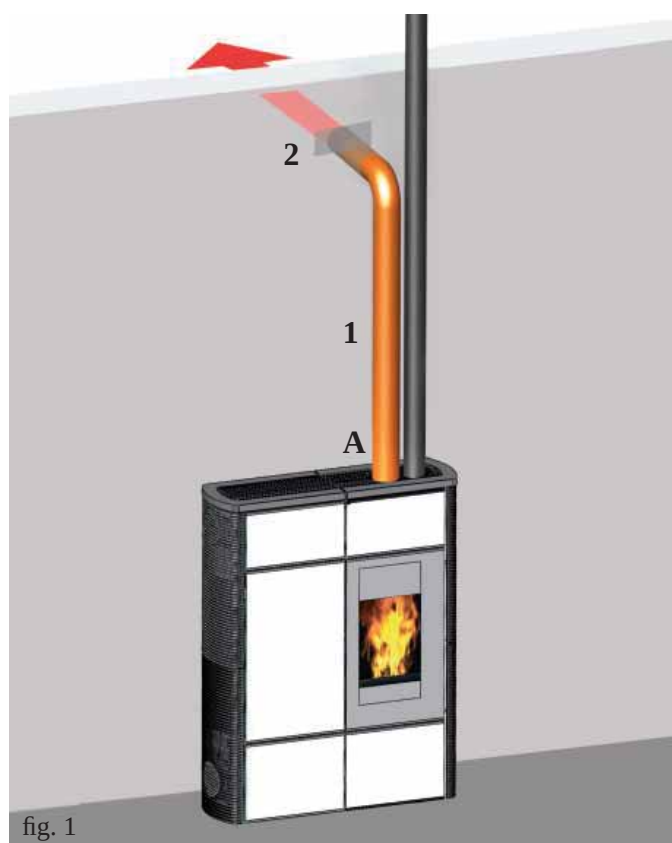

fig. 1
- Extend the aluminium pipe (2 - fig.1) for hot air channelling, without connecting the stove outlet.
- Fit the aluminium pipe to the hot air outlet (A).
- Install the terminal outlet (3) and its aluminium pipe (2).